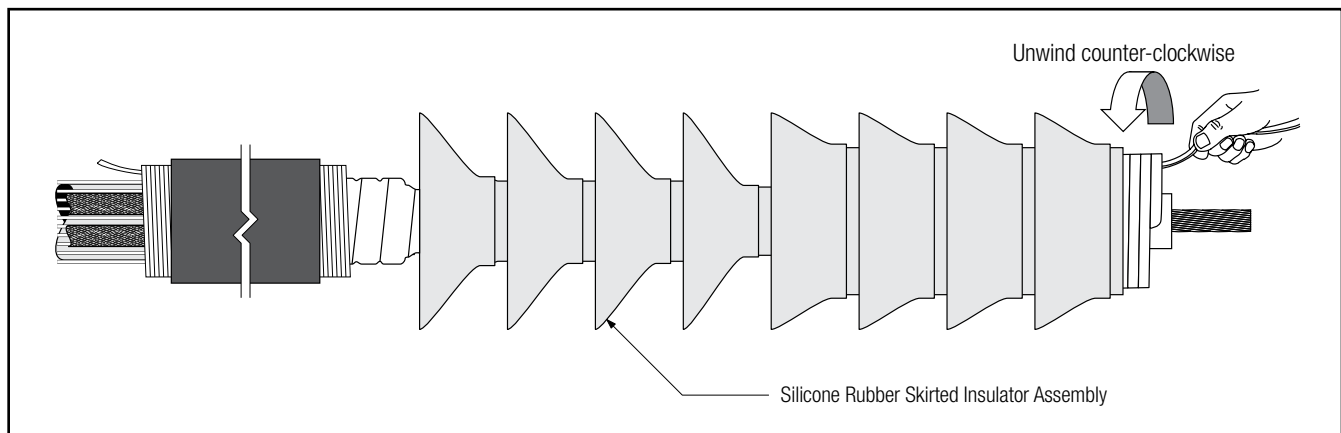

Figure 26
6.7 Remove the core by pulling the loose core end while unwinding counter-clockwise. (Figure 26)